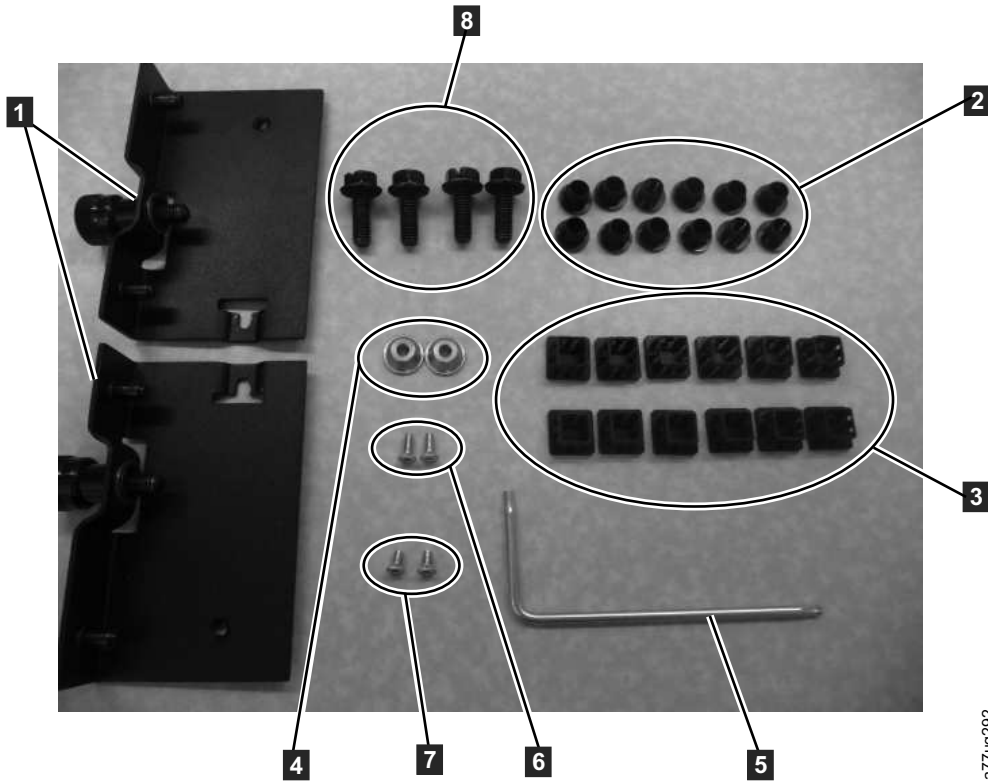

Figure 25. Rack Kit B mounting hardware
- 2 mounting brackets with captive thumb screws (**1** in Figure 25)
- 1 Torx wrench (**5** in Figure 25)